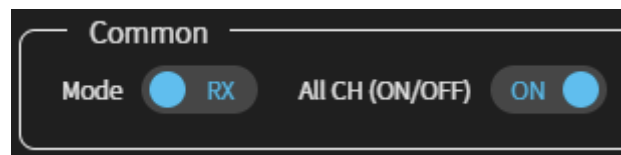

Figure 11. Switch BBoard to RX
- d. Switch the operation mode into the receiver from the TMXLAB kit as shown in Figure 11.